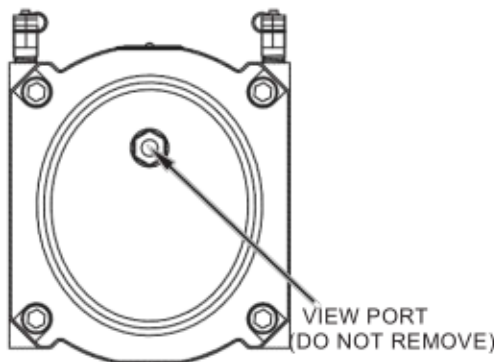

Figure 8. Back of meter
- Slowly open the meter's outlet valve until the meter starts to operate at low speed. Meter speed can be seen through the view port located on the back of the meter [Figure 8].